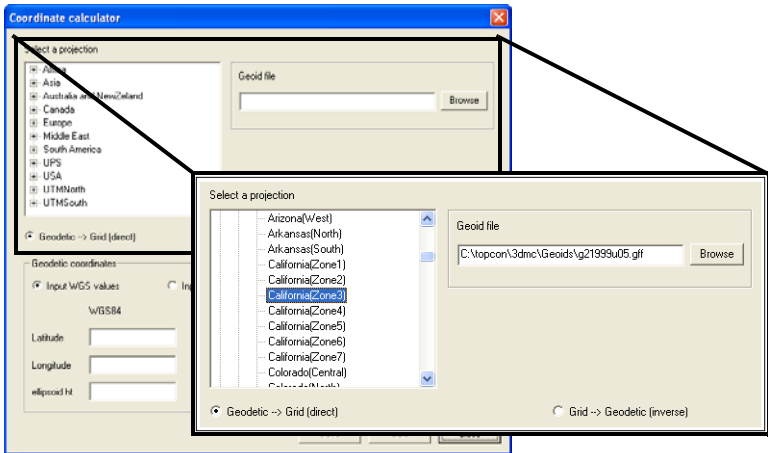

Figure 2-10. Select Projection, Geoid, and Transformation
2. Select the projection and the geoid (optional) to use in the calculation (Figure 2-10 on page 2-9).
3. Click **Geodetic->Grid** to compute grid coordinates (Figure 2-10).